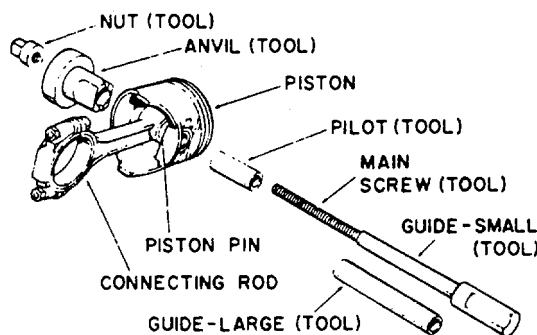

Figure 5-2. Tool Arrangement For Removing Piston Pin
- (c) Remove bolts (8), nuts (7) and connecting rod bearing cap (9).
- (g) Remove retaining rings (3).
- (h) Arrange piston pin remover and installer C-3724 for the removal of piston pin as shown in figure 5-2.